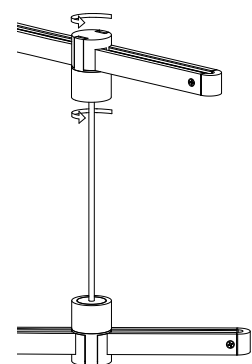

Fig. 12
4. Rotate Power Bar to the desired position and secure by fully tightening the Hanger sleeve. (Fig. 12)